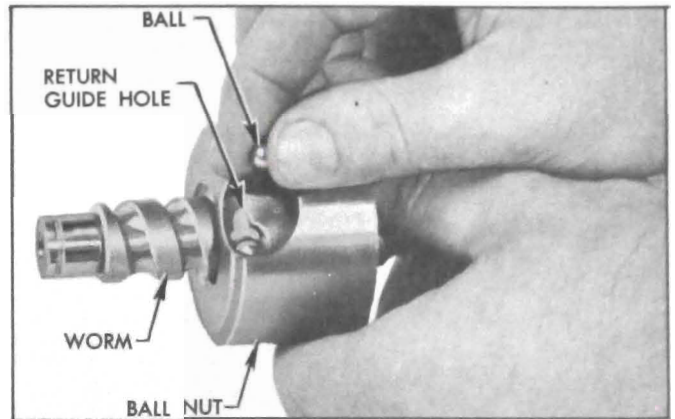

Figure 8-30—Loading Balls in Ball Nut
3. Align the ball return guide holes with the worm groove. Load 17 balls into the ball nut. Drop the balls into the return guide hole farthest from the adapter while slowly rotating the worm counterclockwise to feed the balls through the circuit. See Figure 8-30.